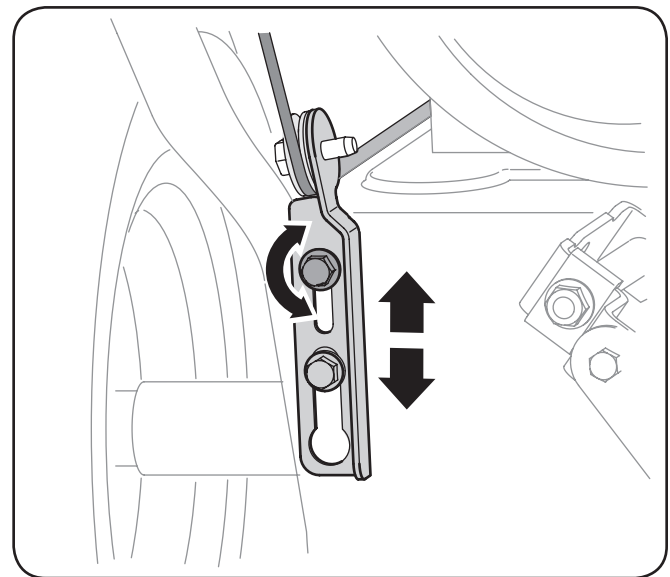

Figure 3-15
4. Allow the auger to remain engaged for approximately ten (10) seconds before releasing the auger control. Repeat this several times.
7. To readjust the control cable, loosen the upper hex nut on the auger cable bracket. Position the bracket upward to provide more slack (or downward to increase cable tension). See Fig. 3-15.